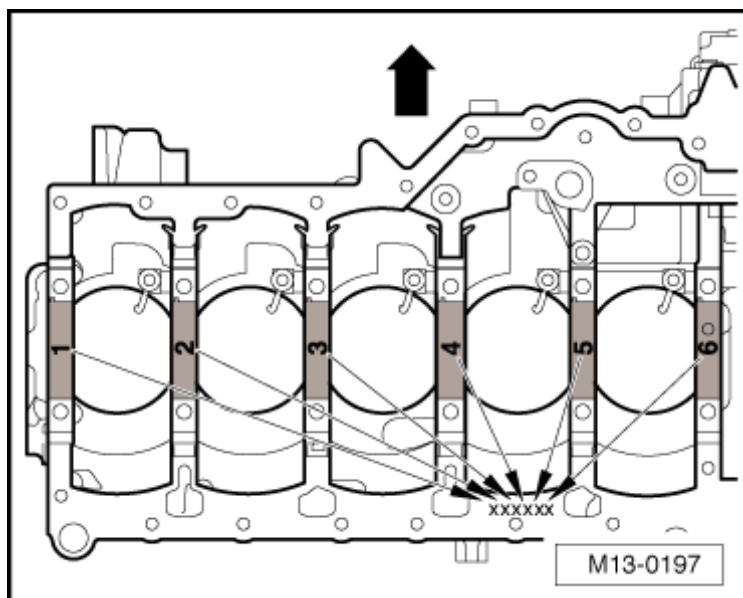

Fig. 13: Identification Of Top Crankshaft Bearing Shells
- Classification for replacement part ordering, refer to **Fig. 13**.